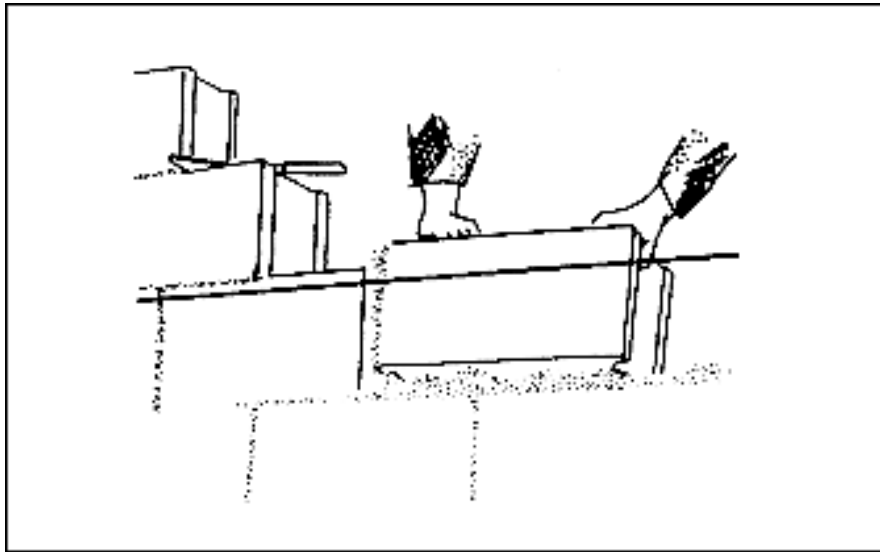

Figure 8-11. Filling in the wall between corners
Step 2. Lay the top outside edge of each new block to this line (see Figure 8-11 below). How you grip a block before laying it is important.
- Place the lower edge of the new block directly on the edges of the blocks comprising the course below, as shown in Figure 8-11.